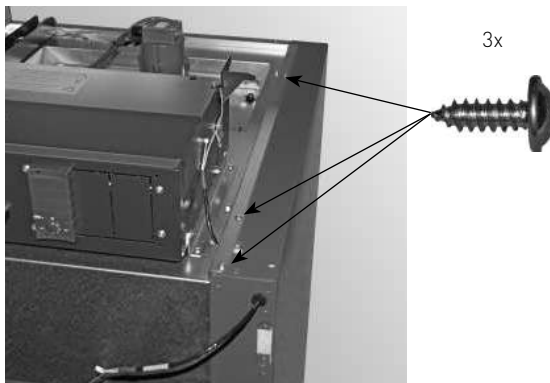

Fig. 37 Threading InfoWINplus cable into side panel
- Secure side panel at top with 3 self-tapping screws – Fig. 37.